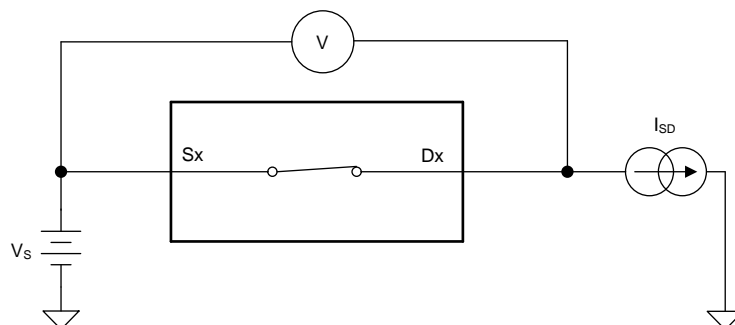

Figure 27. On-Resistance Measurement Setup
The on-resistance of a device is the ohmic resistance between the source (Sx) and drain (Dx) pins of the device. The on-resistance varies with input voltage and supply voltage. The symbol R_{ON} is used to denote on-resistance. The measurement setup used to measure R_{ON} is shown in Figure 27. Voltage (V) and current (I_{DS}) are measured using this setup, and R_{ON} is computed as shown below with $R_{ON} = V / I_{SD}$: